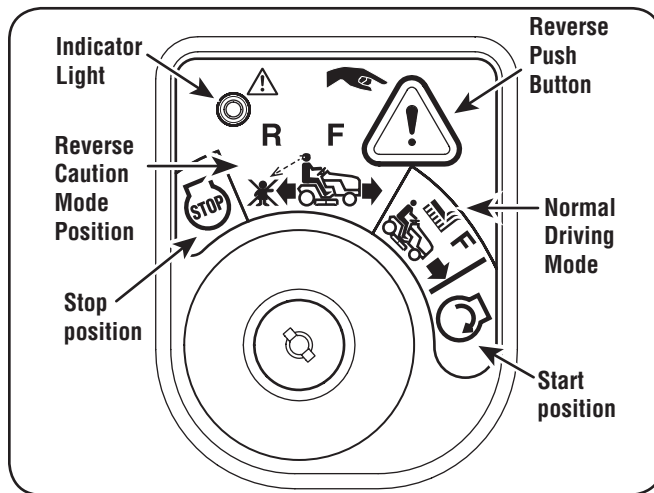

Figure 5-2
2. Turn the key from the NORMAL MOWING (Green) position to the REVERSE CAUTION MODE (Yellow) position of the key switch module. See Figure 5-2.